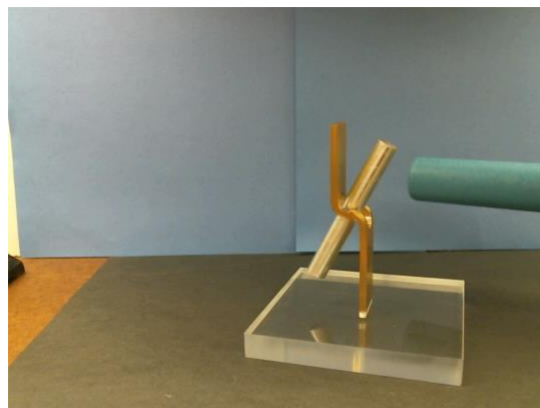

Fig. 9 Charged VDG is held near the electroscope tube but not touching.
2. Turn on the handheld VDG and move its front end to about 5-10 cm away from the electroscope. See **Fig. 9** for the geometry. How does the tube behave when the charged VDG approaches it?